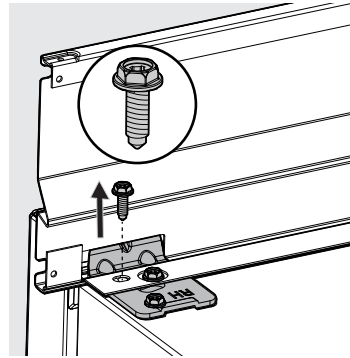
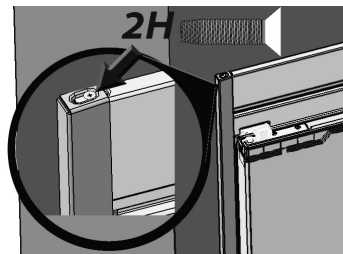

Fig. 21
Fig. 24
22. a. Remove the front outer hinge screws, common on both sides of the dual installation, as well as the front two 4H screws that fasten the 1H Tie Bar (Fig. 21).
24. a. Place side trims in position by dropping them over the placement screw as seen in Fig. 21 and fitting over the top trim (Fig. 24).